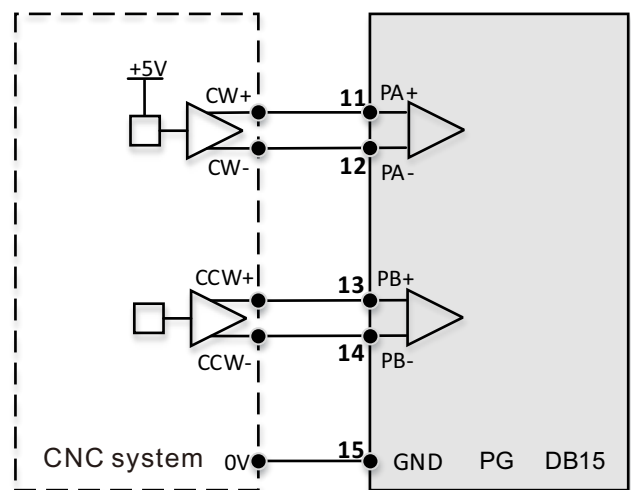
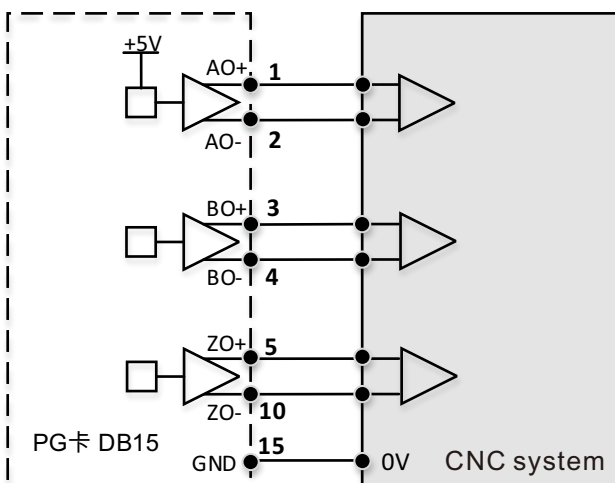

Figure 3 Schematic diagram of differential pulse given wiring
Figure 4 Differential pulse frequency division output wiring schematic diagram
2. If necessary, the control system can be connected to the PG card DB15 female port via a shielded cable with differential pulse reference to the PG card PA+/PA-, PB+/PB-, GND (6 or 15), as shown in Figure 3. The differential pulse frequency division output is connected to AO+/AO-, BO+/BO-, ZO+/ZO-, GND (6 or 15), as shown in Figure 4.